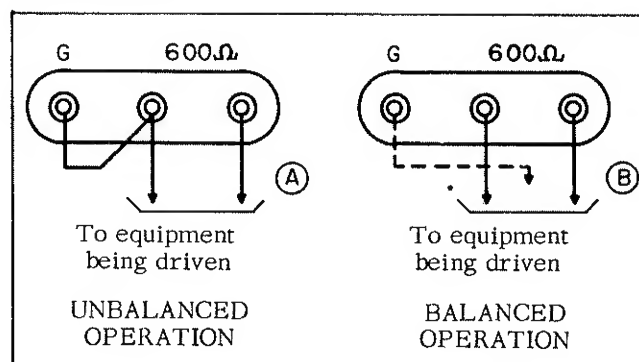

Figure 2-2. Output Connections
The output circuit of the Model 202C may be arranged for balanced or unbalanced operation. Typical connections for each are indicated in figure 2-2.
A. UNBALANCED OPERATION. To operate with one side grounded, the captive ground strap is placed between the G terminal and the center terminal, as indicated in figure 2-2.
B. BALANCED OPERATION. Connections for balanced operation are indicated in figure 2-2. The AMPLITUDE control is a bridged tee attenuator in the output circuit and therefore it will produce a degree of unbalance at any setting other than maximum output (minimum attenuation). The unbalance produced by the AMPLITUDE control will be a function of frequency with the greatest unbalance being produced at 100 kc. In many applications the unbalance produced by the AMPLITUDE control will not be important. Where a perfectly balanced output is required an external balanced attenuator or a line matching transformer such as the  $\Phi$  AC-60A/B is recommended.